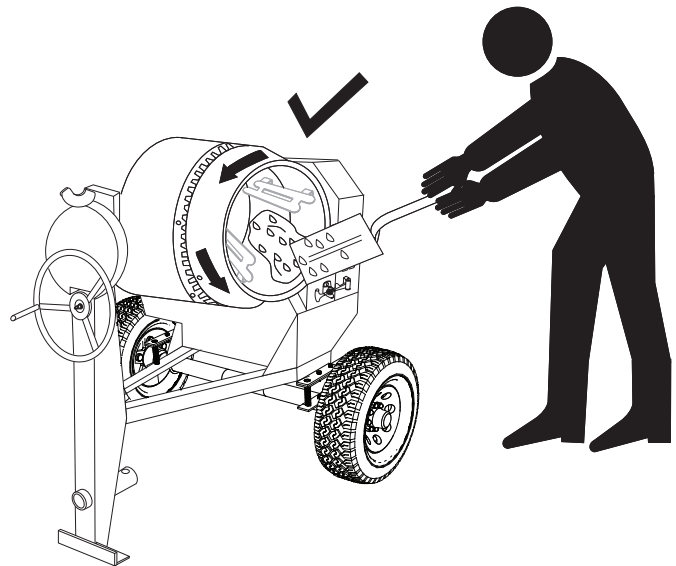

Figure 15. Filling Mix Drum
2. As the drum rotates, use a shovel (Figure 15) to place the cement mix inside the drum, add water as required. Be careful to only place the **tip** of the shovel inside the drum.